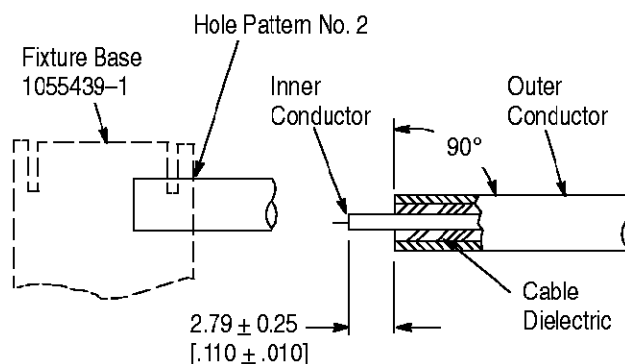

Figure 3
2.1. Preparing the Coaxial Cable End (Figure 3)
5. Complete the trimming of the inner conductor to the dimensions shown in Figure 3.